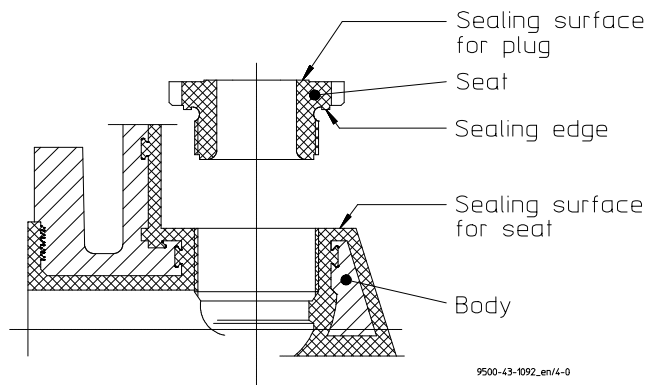

Fig. 8
- The new seat must be carefully protected prior to assembly. The sealing edge and the sealing surface for the plug must not be damaged. See Fig. 8.